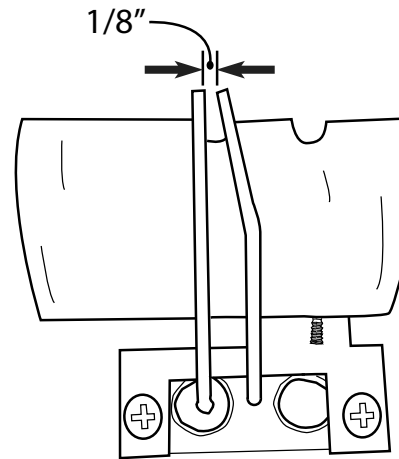

Fig. 12 Proper probe spacing for good ignition.
NOTE: Ensure the probes are aligned over-top of the rainshield notched/cutout area and are spaced approximately 1/8-inch apart from the end/tips, above the burner tube. See Fig. 12.
Step 9: Test the ignitor by pushing and holding the red button to ensure the 2-probe ignitor is sparking inside the ignition box in the burner pan. The spark should be located directly over top of the burner port hole for proper ignition of the gas as previously discussed. Spacing between the probes should be approximately 1/8" for proper spark. See Fig. 12 on page 4 if necessary.
3. Gas should ignite within 10 seconds or less. If fire pit does not light within 10 seconds turn **OFF** the gas supply. Check ignitor probe location (Figures 12 & 14), ensure there is an 1/8" gap between the probes with a good strong spark then repeat steps 2 through 4.